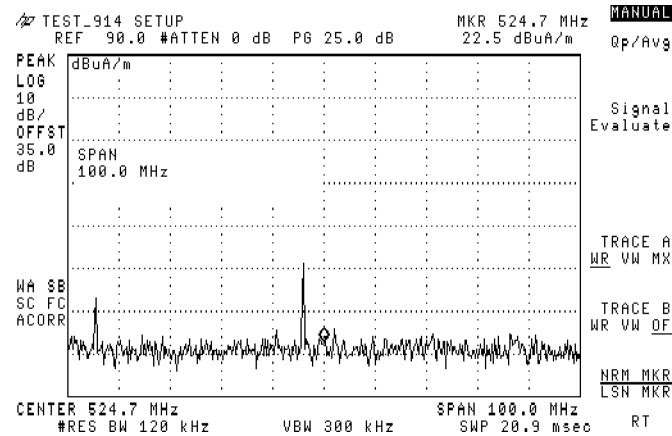

Figure 3-4. Reducing the Span
14. Press **MODE**, **MODE** to return to the EMC auto-measurement personality. See Figure 3-4.